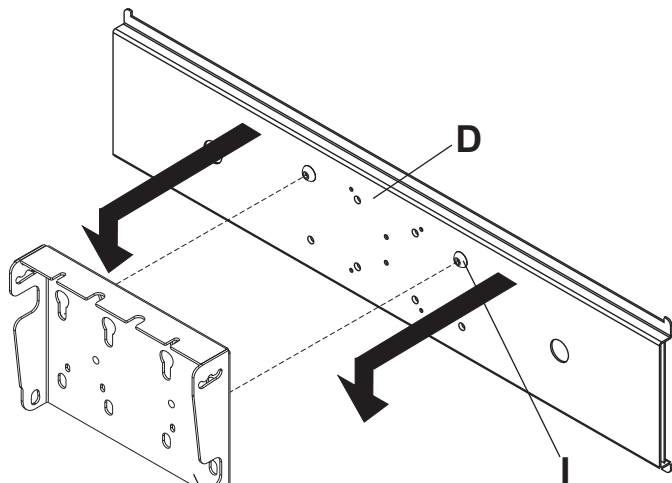

fig. 7.1
**7** Thread two M10 x 15 mm screws (**I**), leaving .25" exposed thread, into top holes on back of adapter plate (**D**). Hook adapter plate (**D**) to mounting plate and attach using two bottom M10 x 15 mm screws (**I**) as shown in figures 7.1 and 7.2. Tighten screws using 6 mm allen wrench (not included).